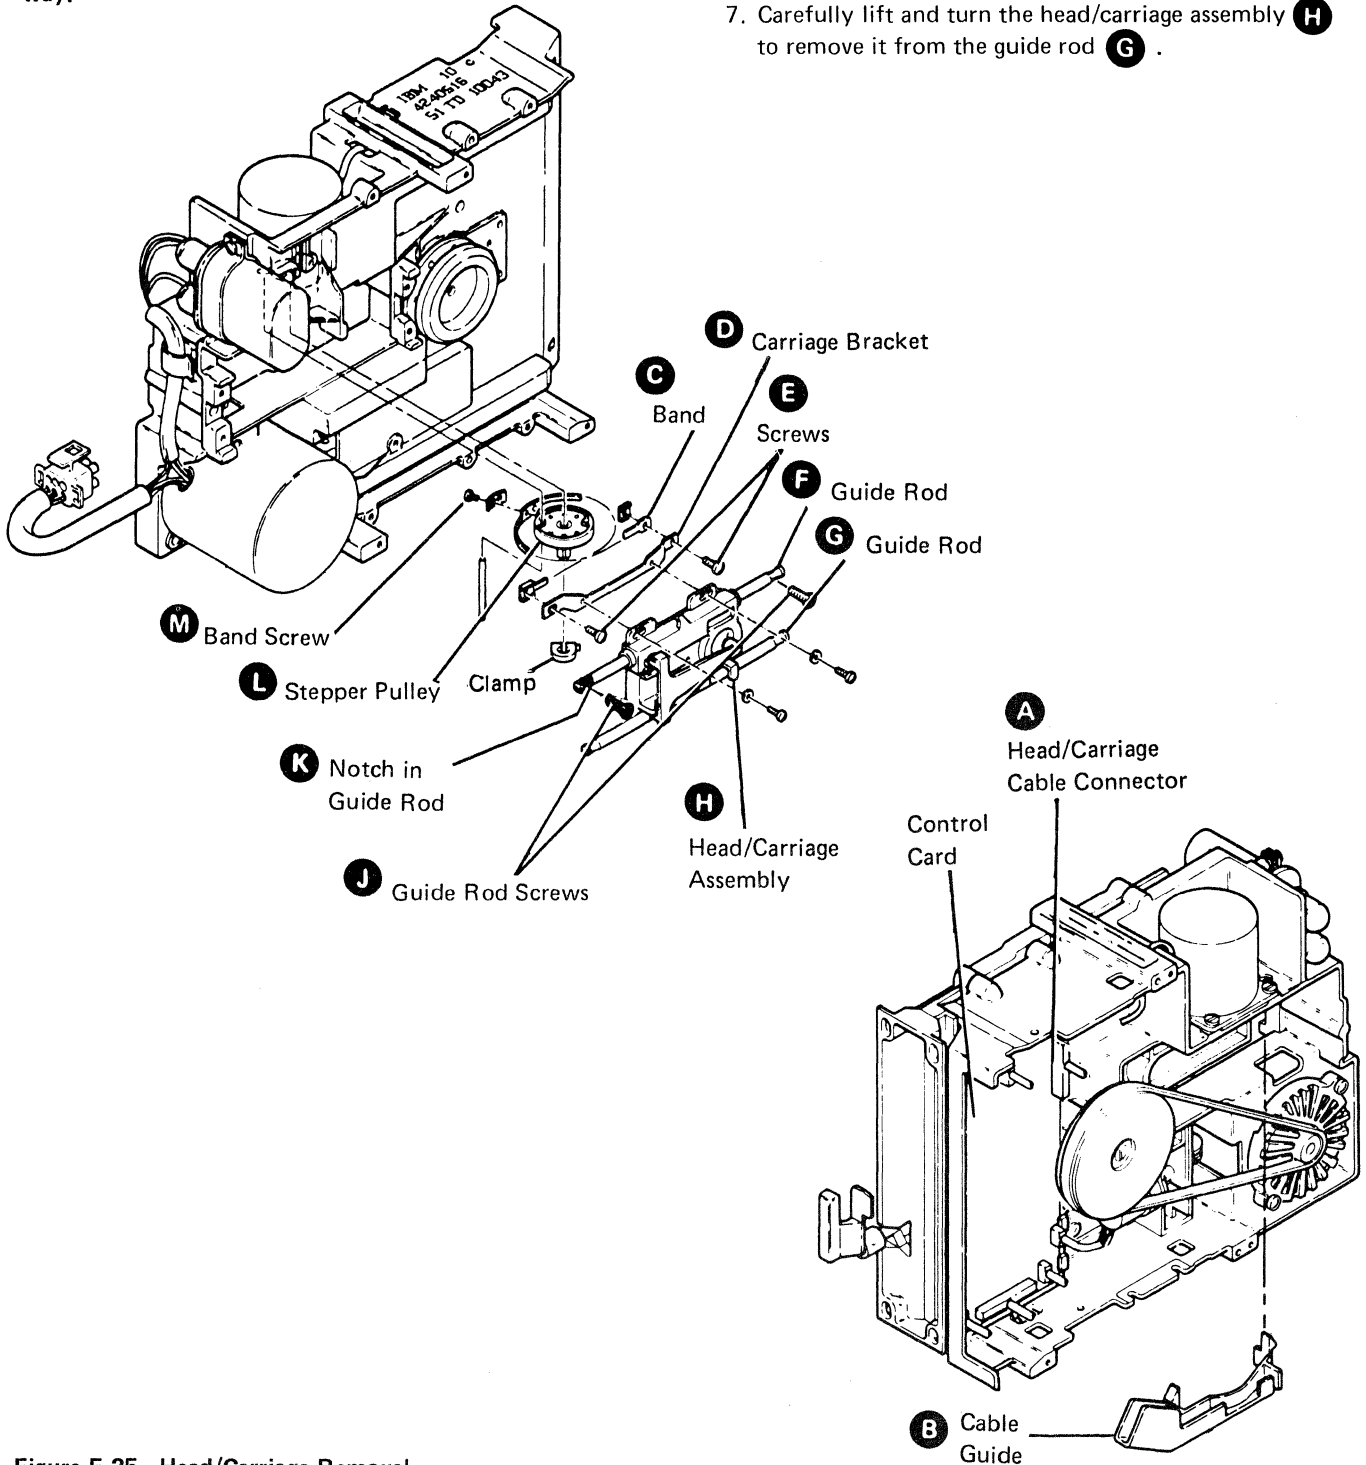

Figure E-25. Head/Carriage Removal
E.3.2.3 Head/Carriage Removal (Figure E-25)